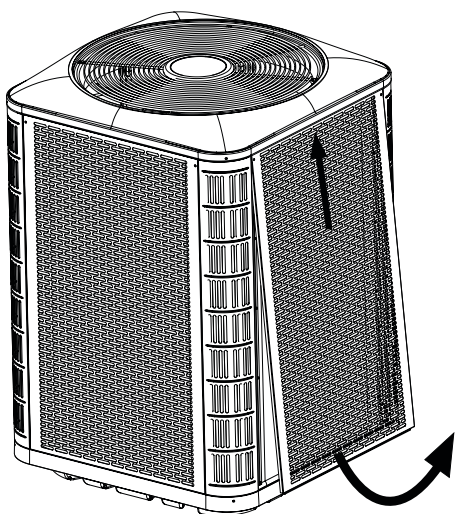

Figure 6. Panel Removal
2. Slide the panel up towards the top pan in order to clear the bottom flange from the base pan. See Figure 6.